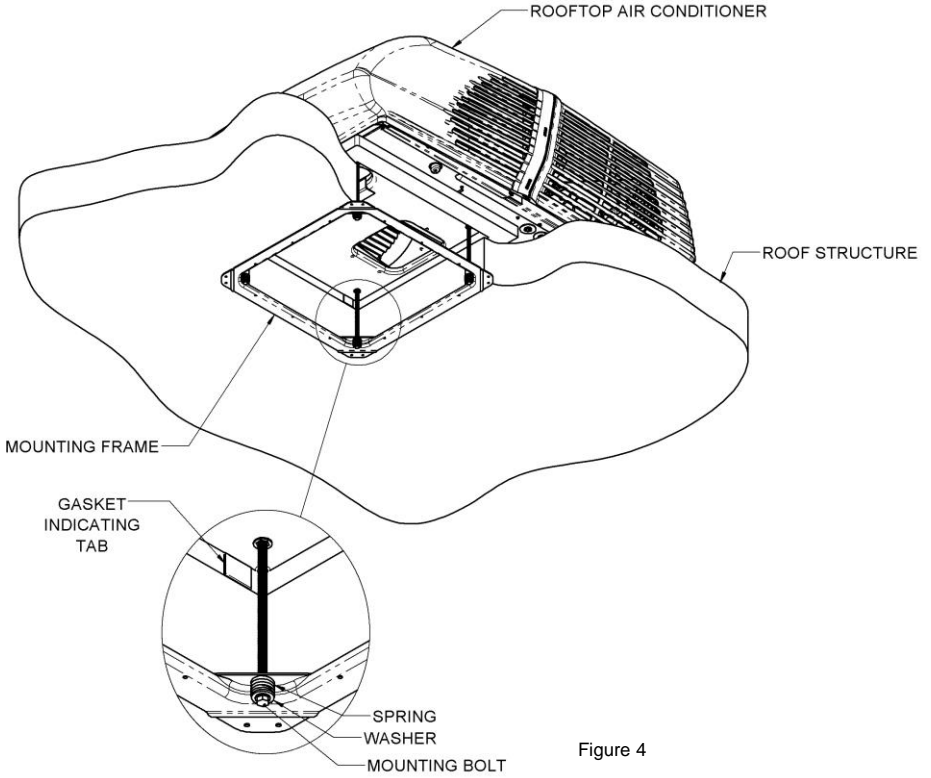

Figure 4
A mounting frame is supplied with the ceiling assembly. Follow the steps below to secure the Air Conditioner to the roof. Refer to Figure 4.
- C. Proper tension has been achieved for each bolt when the spring coils have just come together. (See Figure 4). The upper unit has now been properly